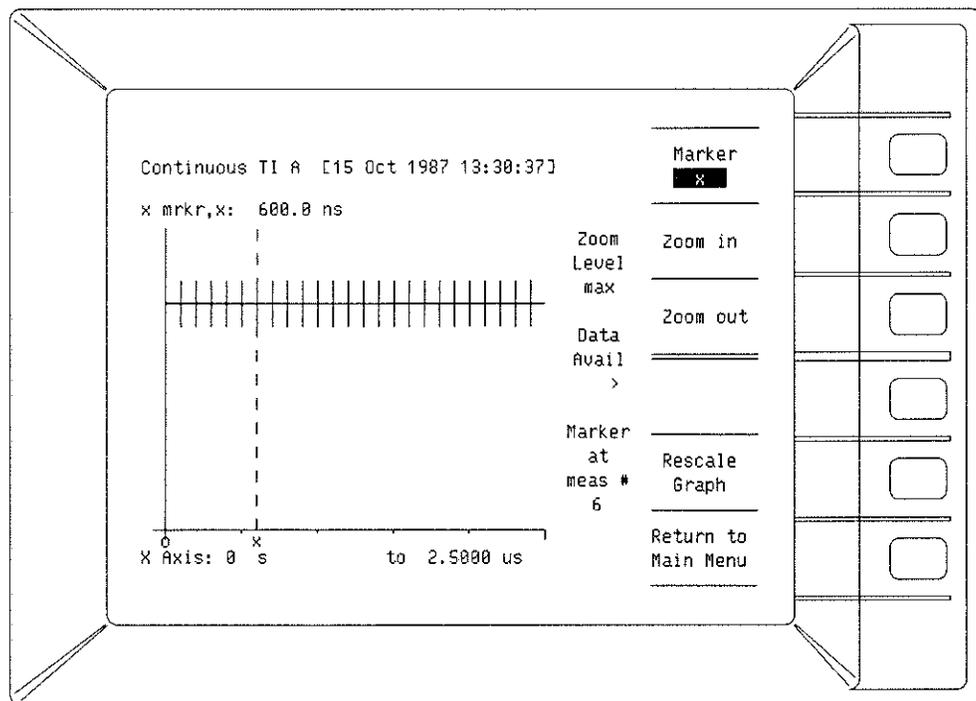

Figure 2-5. Event Timing Graph
- J. The display should be as shown in *Figure 2-5*. The vertical lines above and below the main horizontal line represent start and stop points, respectively. Since the continuous time interval measurement mode needs no time between measurements, the start lines should be directly above the stop lines.